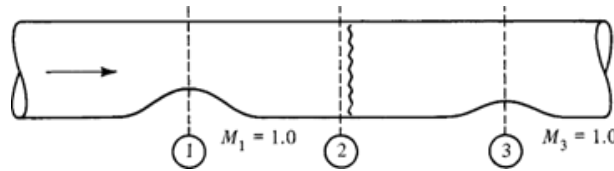

Figure P6.4
- 6.4** It is known that sonic velocity exists in each throat of the system shown in Figure P6.4. The entropy change for the air is 0.062 Btu/lbm – °R. Negligible friction exists in the duct. Determine the area ratios A_3/A_1 and A_2/A_1 .